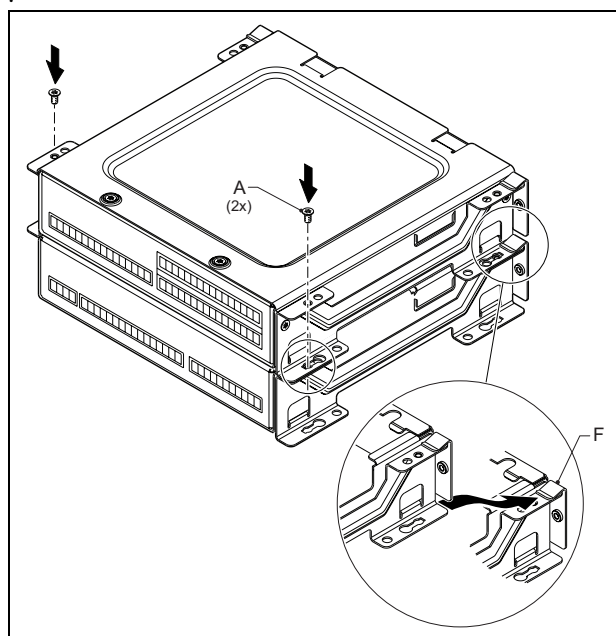

figure 20.11: Module stacking
- 7 Put the upper module on top of the lower module (see figure 20.11).
- Slide the upper module into the spring clamp (F)
- 8 Place and tighten the screws (A)